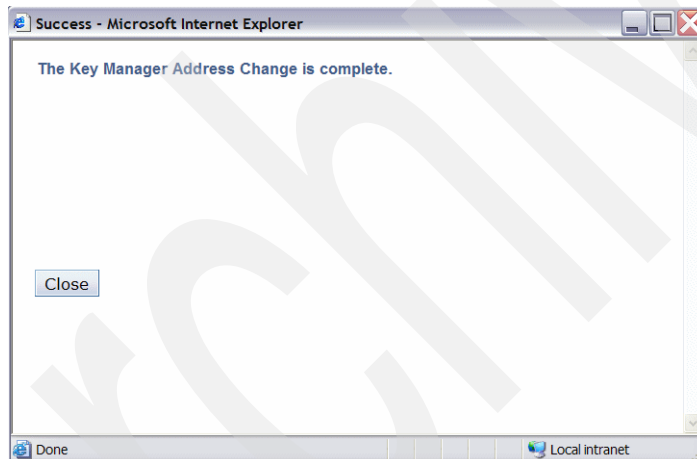

Figure 6-71 Key manager added
5. A confirmation window is displayed to confirm that the key manager IP address is added successfully (Figure 6-71).